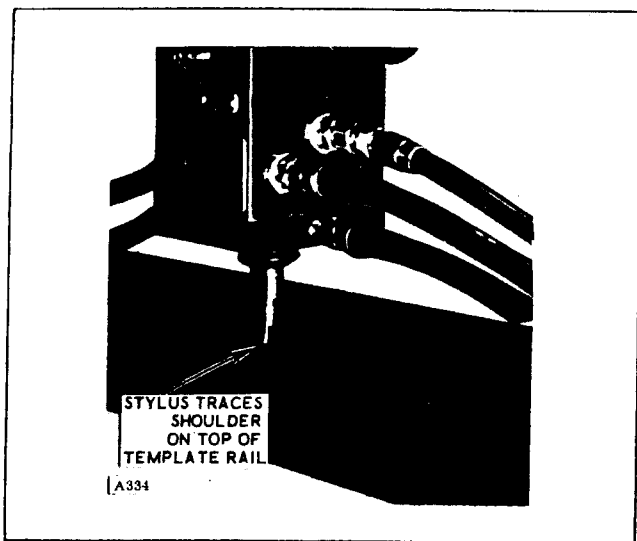

Figure 2-28. Tracing Shoulder on Top of Template Rail to Check Alignment
- (4) Move the tracer valve to a point near the tailstock end of the template rail, with the stylus riding slightly against the shoulder on the top of the template rail as shown in figure 2-28.
- (5) Place the TRACE-RETRACT knob on the tracer valve in the TRACE position and traverse the lathe carriage at least 12 inches along the template rail while observing the dial indicator. If the dial indicator deflects in either direction, make the proper adjustment to the template rail position and repeat the test until the template rail is parallel to the lathe bed.